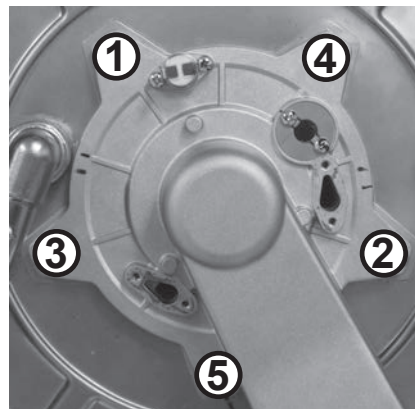

Figure 118 - Remove burner door hex nuts
16 Locate the five (5) hex nuts securing the burner door assembly to the heat exchanger as shown in Figure 118. Use a 10 mm hex socket to remove hex nuts. Place hex nuts aside in a safe location for reinstallation.
NOTICE: Star pattern in Figure 118 above **MUST** be followed during reinstallation of screws to burner door assembly.
29 Install burner door assembly over bolts in heat exchanger. Locate the five (5) hex nuts previously removed in **Step 16**. Hand tighten the hex nuts, then use a 10 mm hex socket to tighten each nut in a star pattern as indicated by the numbers (1-5) adjacent to the bolt holes. Torque hex nuts to 7.4 ft-lbs. (10 Nm). See Figure 118 as reference.